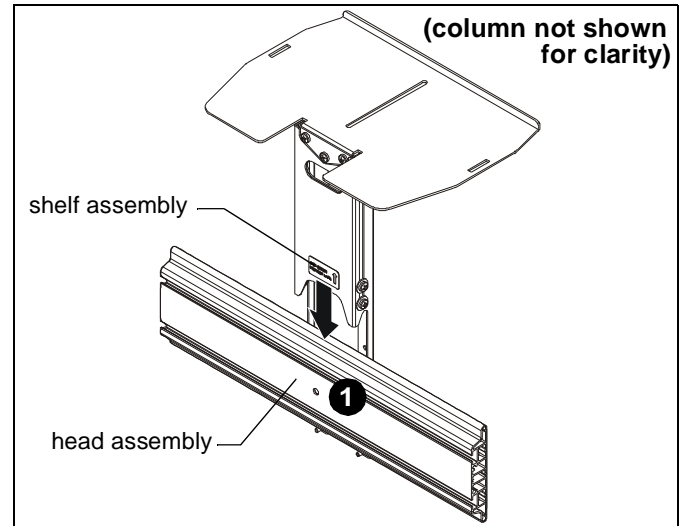

Figure 3
1. Lower shelf assembly onto head assembly, placing shelf assembly hooks over extrusion. (See Figure 3)